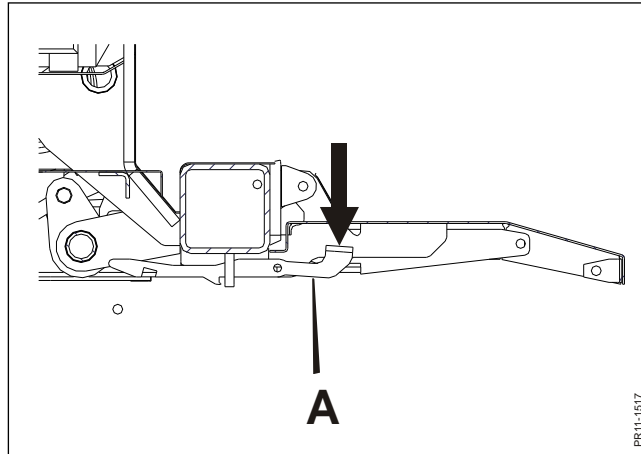

Fig. 5-1
**Fig. 5-1** When maintaining the machine you often need to open or remove guards. The front guard, which must not be lifted for transport, have for safety reasons been fitted with a lock. The lock ensures that the guard cannot be opened without tools. In order to open the front guard you need to push down the holder **A** and lift the front guard at the same time. It automatically locks in open position. The front guard is closed by pushing down the holder **A** while lowering the front guard.